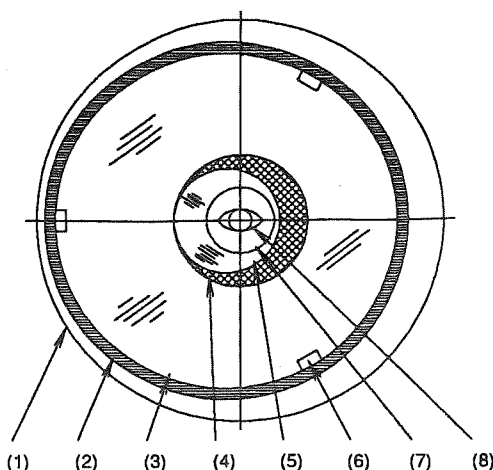

Fig. 3
Fig. 3 shows a correctly collimated Schmidt-Newtonian telescope, as it appears when viewed through the focuser with the eyepiece removed. To check and, *if necessary*, set the optical collimation, follow these steps:
1. Observe through the focuser, without an eyepiece, and with your body oriented so that the telescope's primary mirror is to your left, and the correcting plate end of the telescope tube is to your right. The diagonal mirror (circle 2, Fig. 3) will appear slightly offset to the left, as shown in Fig. 3. The amount of "left" offset is set at the factory and is not adjustable. If the diagonal appears too high or too low, then adjust the 3 collimation screws on the plastic diagonal mirror housing.
2. If the reflection of the main mirror (circle 3, Fig. 3) is not centered on the surface of the diagonal mirror, adjust the 3 collimation screws on the plastic diagonal mirror housing to correct in the left or right direction, and rotate the diagonal mirror housing to correct in the up-down direction.